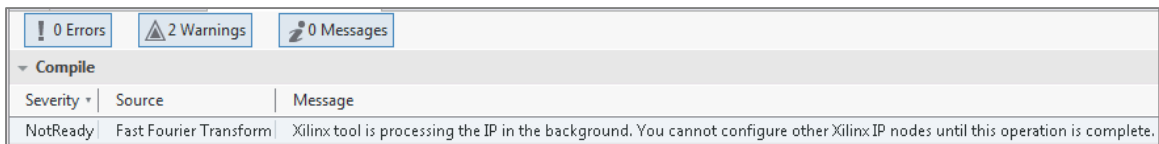

Figure 26 - "Not Ready" warning because Xilinx tool is processing the IP in the background
7. Wait until the warning "Not Ready", as shown in Figure 26, has disappeared.